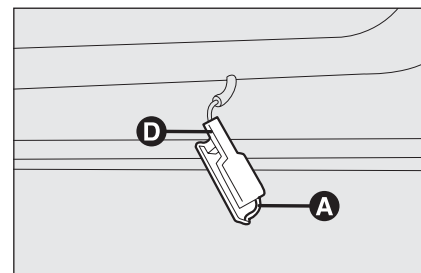

fig. 35
- ☐ remove the light by pressing clip **A**-fig. 35 with a screwdriver;
- ☐ refit the ceiling light inserting first end **D-fig. 35** and then pressing the other end until hearing the locking click of the clip.